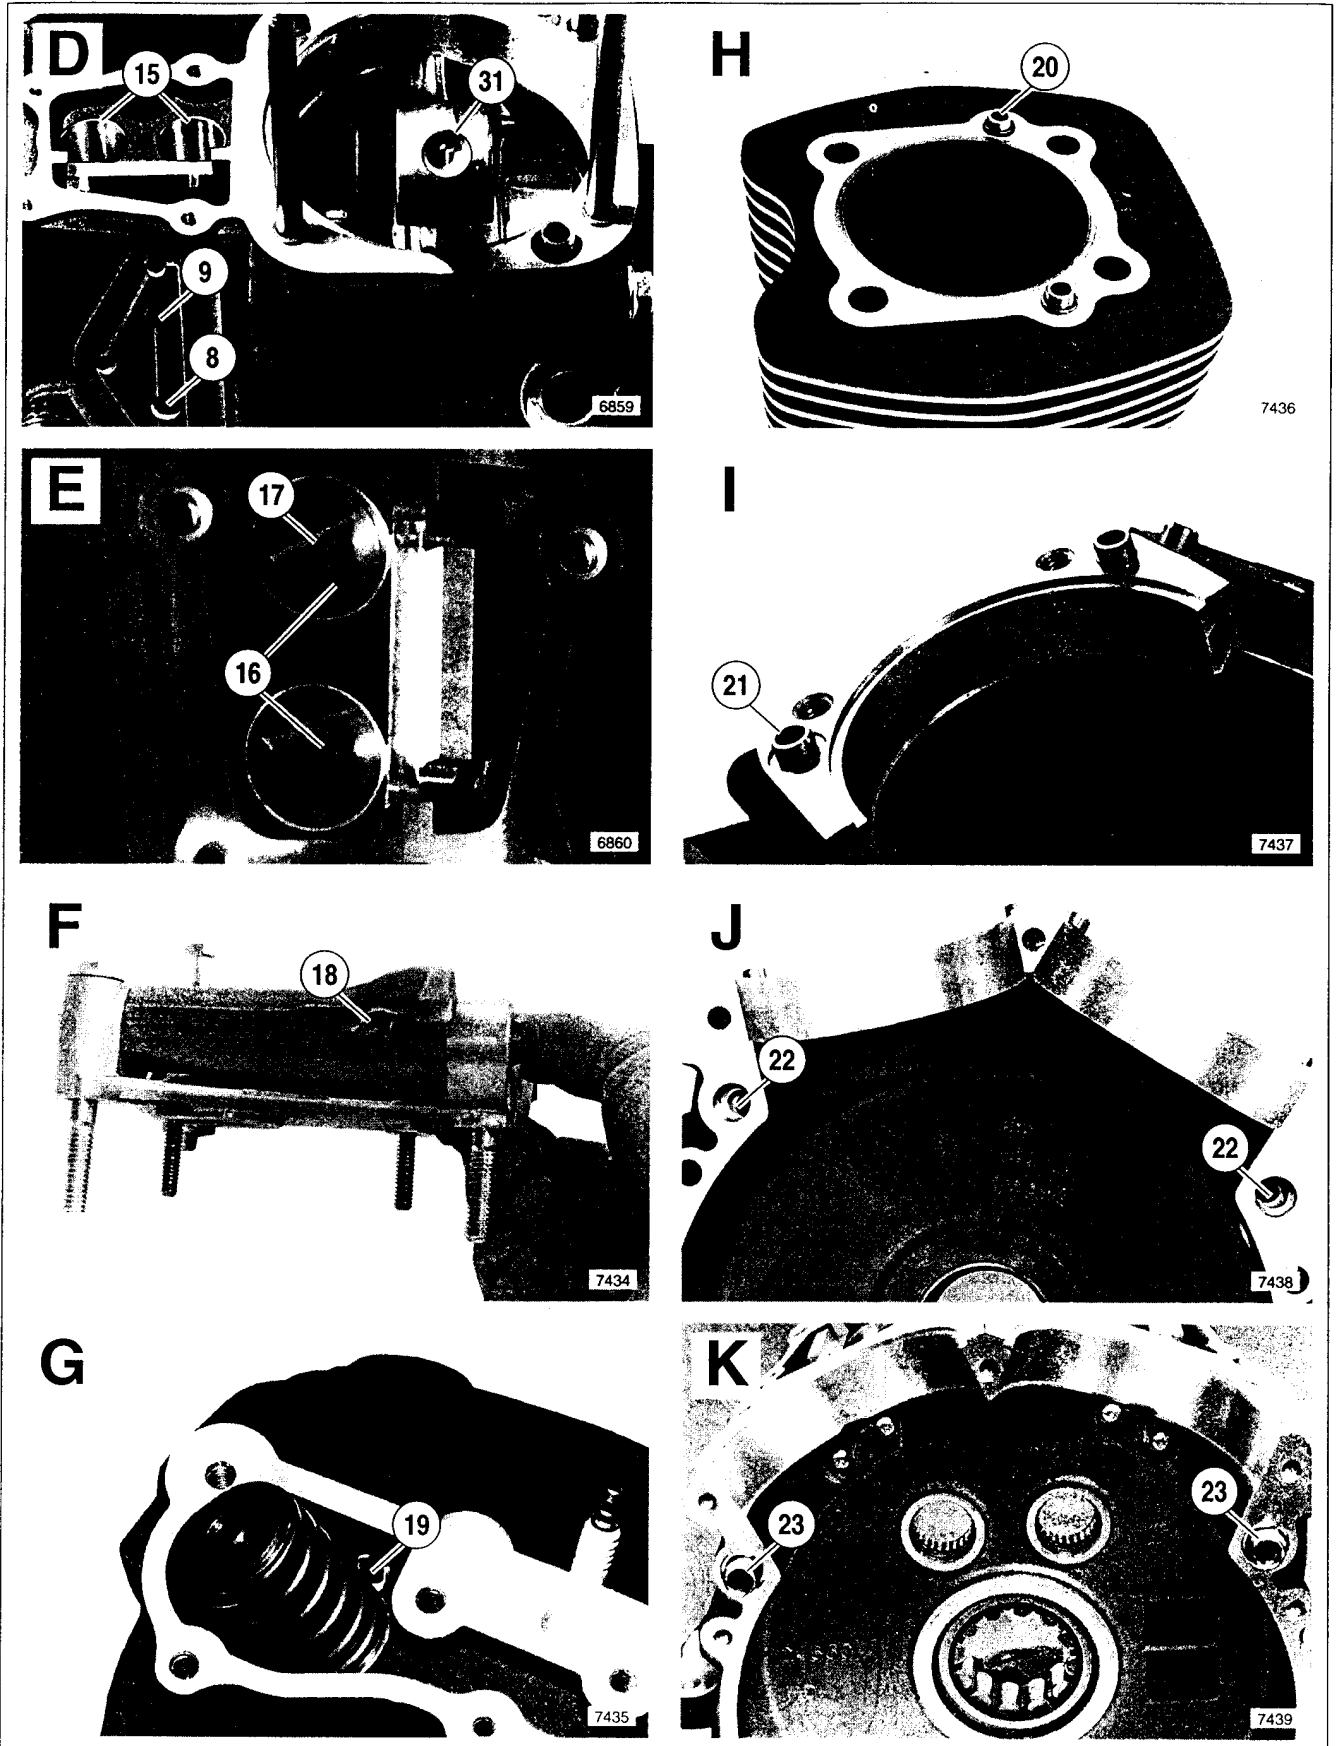

Figure 3-5. Engine Oil Flow - Top End
- Top end oil flow is shown in Figure 3-5.